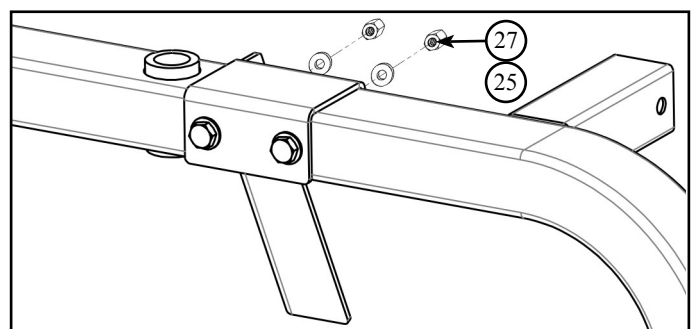

Figure 3.5 - Gas Spring Bracket
3. Install washers (27) and tighten nuts (25). Do NOT over-tighten nuts. Refer to Figure 3.5